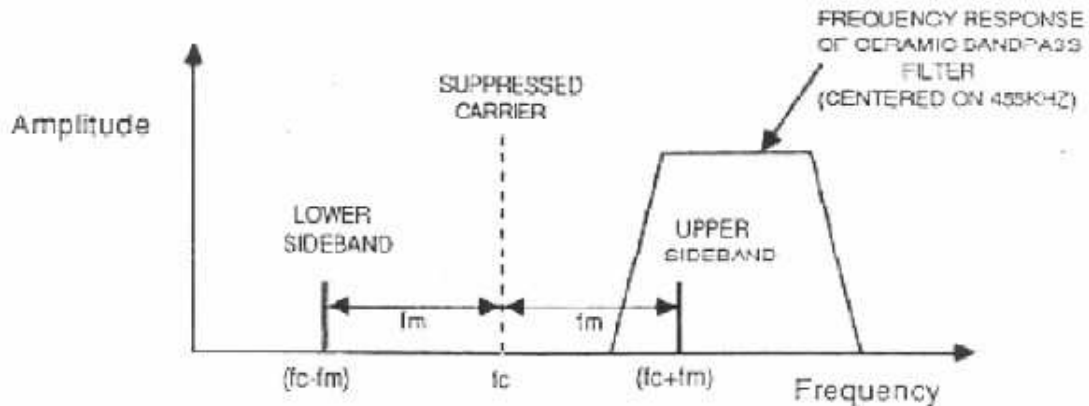

Figure 4: Frequency Response of Ceramic BPF
7. The DSBSC output from the balanced modulator block is next passed on to the ceramic filter block, whose purpose is to pass the upper sideband, but block the lower sideband. We will now investigate how this is achieved. First note that the ceramic band pass filter has a narrow pass band centered around 455 KHz. It was mentioned earlier that the frequency of the carrier input to the balanced modulator block has been arranged to be slightly less than 455 KHz. In fact, the carrier is chosen so that, whatever the modulating frequency f_m , the upper sideband (at $f_c + f_m$) will fall inside the filter's pass band, while the lower sideband (at $f_c - f_m$) always falls outside. Consequently, the upper sideband will suffer little attenuation, while the lower sideband will be heavily attenuated to such an extent that it can be ignored. This is shown in the frequency spectrum in fig 4.
10. Note that there is some variation in the amplitude of the signal at the filter's output (t.p. 20) as the modulating frequency changes. This variation is due to the frequency response of the ceramic band pass filter, and is best explained by considering the spectrum of the filter's input signal at the MIN and MAX positions of the frequency pot, as shown in Fig. 4.